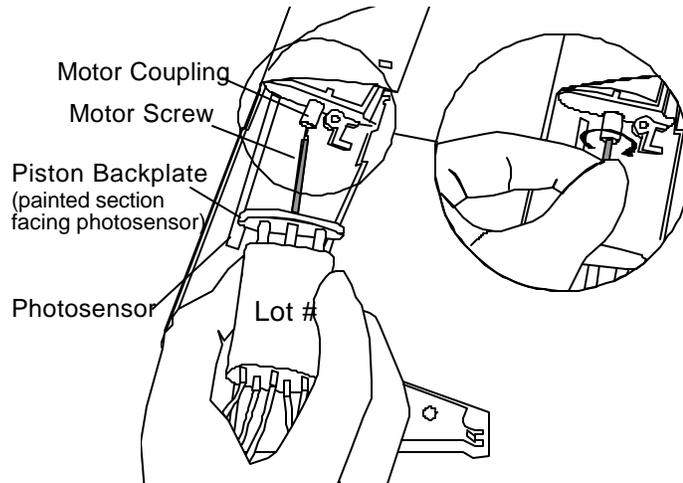

**Figure 9: Assembling Piston and Cylinder**
1. Reinsert the piston assembly into the lubricated cylinder. Ensure that the motor screw engages into the hole in the center of the cylinder (see Figure 9).